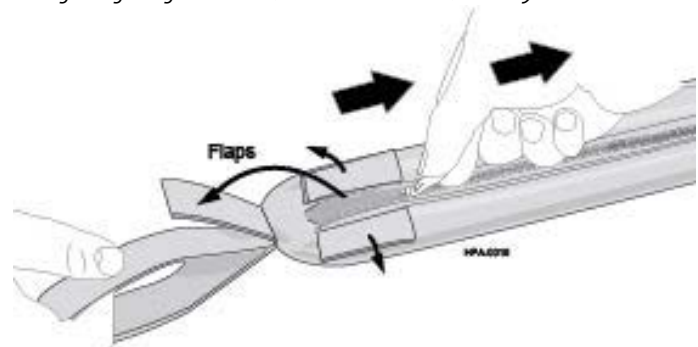

Figure 6— Unzipping the Sleeve
**Step 2:** Lift the hook-and-loop flaps to expose the zipper pull. While holding the sleeve's pulling loop with one hand, unzip the sleeve (Figure 6).